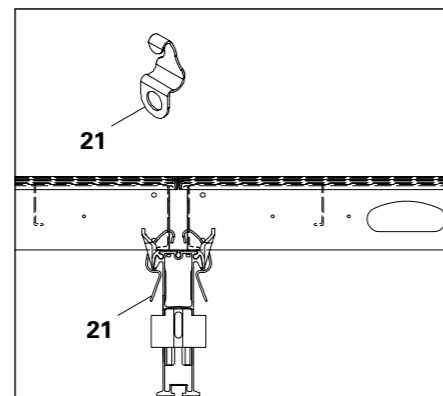

Fig. A9.19
2. Secure panels to SLT Beam with 2 x Panel Clip SPK (21) per panel. (Fig. A9.19)